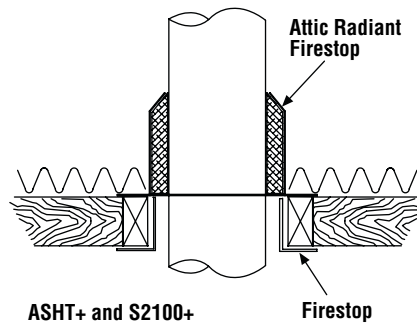
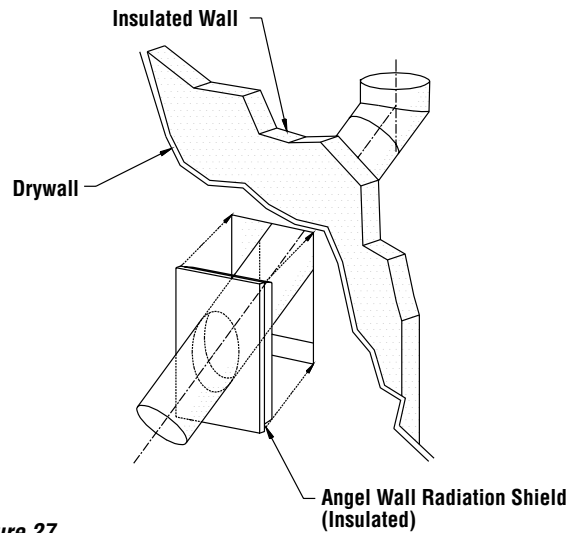

Figure 20A
Figure 27
2. From below, install a firestop in each ceiling/floor separation through which the chimney will pass. At the attic level, install an attic radiation shield from above (see **Figures 20A and 20B**).
1. Install the first elbow. Turn it in the required direction. Fasten it to the chimney with the three (3) 1/2" (12mm) metal screws provided.
2. Install the necessary lengths to achieve the required offset. Lock the chimney lengths together: it is recommended to use three (3) 1/2" (12mm) screws. If the offset length is made of two (2) chimney lengths use an offset support halfway up the offset. If penetrating a wall, install a wall radiation shield (see **Figure 27**).
3. Use another elbow to turn the chimney vertically. Secure the elbow, using three (3) 1/2" (12mm) screws (provided with the elbow).
5. From below, install a radiation shield (**Figure 20A**).
2. Install the necessary chimney lengths to achieve the required offset. Lock the chimney lengths together. If penetrating a wall, use a wall radiation shield (**Figure 27**).
When traversing a combustible wall with the chimney at a 30° or 45° angle, an angled firestop and/or wall radiation shield must be installed. Only one is required (Figure 27). Table 6 gives recommended hole size for installing a wall radiation shield.